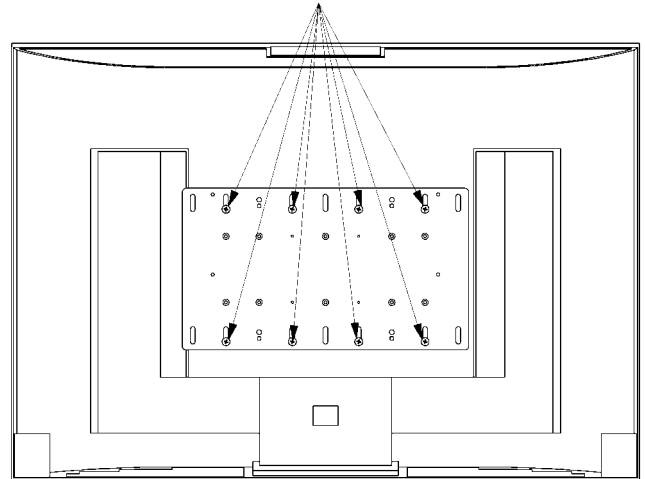

Figure 12. Display with 300mm x 200mm Hole Pattern
1. Select eight Phillips head M6 screws (110) from Bag B and eight spacers (140) from Bag C.
2. Attach the interface bracket (20) using the hole-pattern on the back of your display as shown in Figure 12.